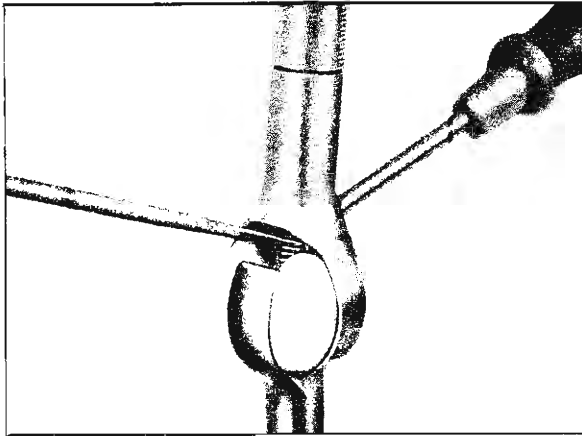

Fig. 29—Removing Spherical Joint Spring
3. Using two narrow bladed screw drivers through the coils of the spring, compress spring enough to remove the upper end from the upper seat (fig. 29).